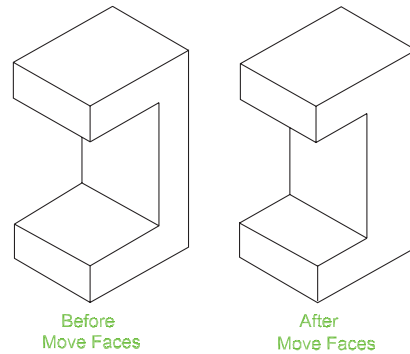

Fig. 18.8 Third example – **Solid, Move faces** tool
Third example – Move faces tool (Fig. 18.8)
1. Construct the 3D solid drawing shown in the left-hand drawing of Fig. 18.8 from three boxes which have been united using the **Union** tool.
and the *picked* face is moved – right-hand drawing of Fig. 18.8.